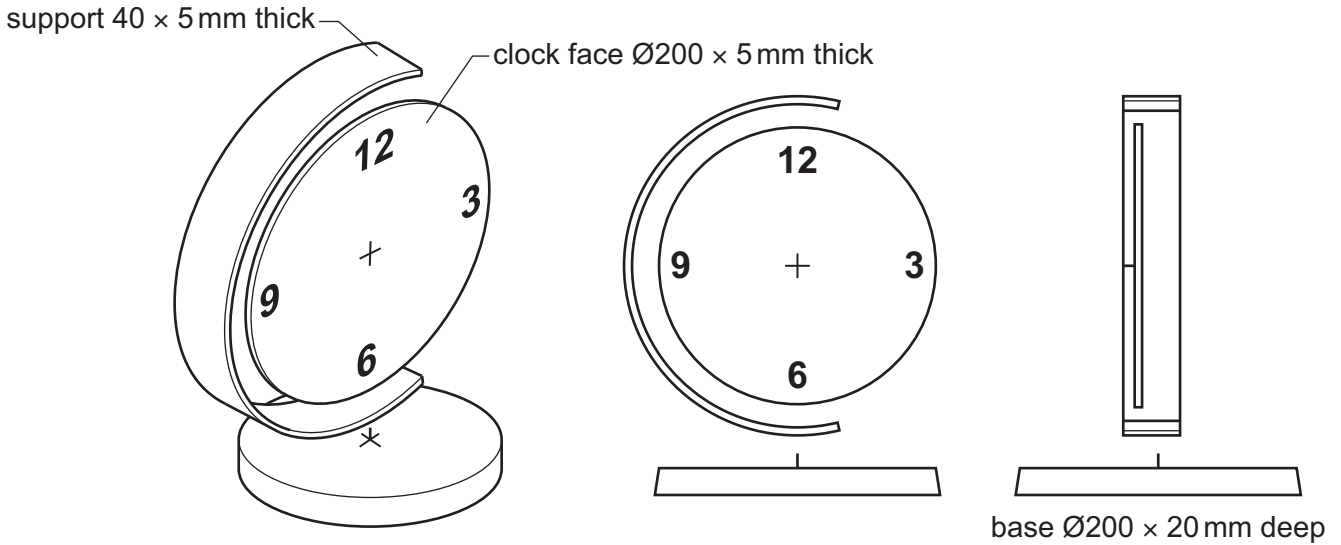

Fig. 12.1
12 Fig. 12.1 shows views of an incomplete design for a freestanding clock made from acrylic. The clock mechanism and the clock hands have been removed.
- (b) The support shown in Fig. 12.1 is made by bending a strip of acrylic 500 × 40 × 5 to shape. The strip will be finished to a high quality before it is bent to shape.